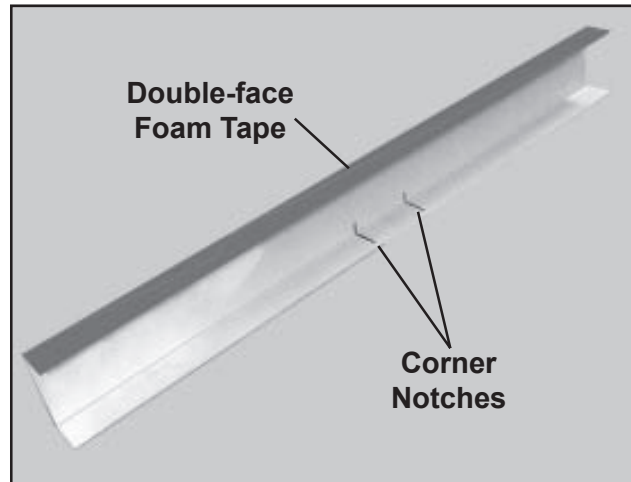

Figure 19. Applying Tape to the Rear Support for Tier 2 and Higher Cages
- b. **If this cage is for Tier 2 or a higher tier**, apply double-face tape to the *side* of the rear support as shown in Figure 19.